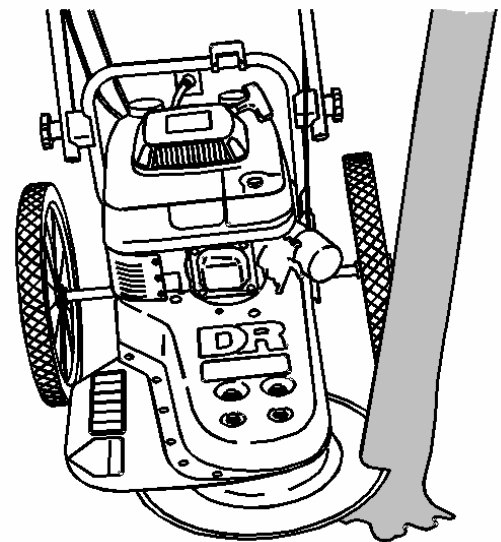

Figure 2
3. Engage the trimmer head, balance the trimmer on the wheels to level the blade, and EASE the blade into the brush or saplings you wish to cut. Use the side of the blade to cut instead of heading straight into the trunk (**Figure 2**). DO NOT ram the blade into what you are cutting. Ramming could damage the blade and cause injury. When cutting small trees that cannot be cut in one bite, pull the blade back and cut again from the opposite side. (See paragraph Felling of Trees)